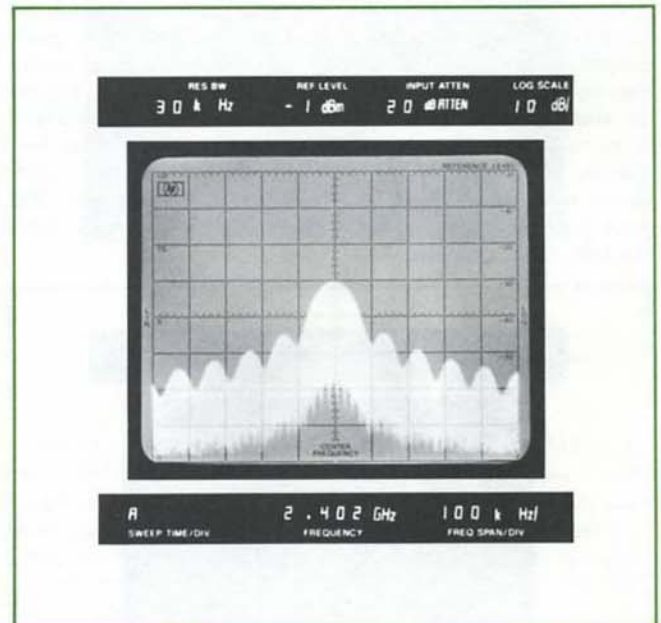
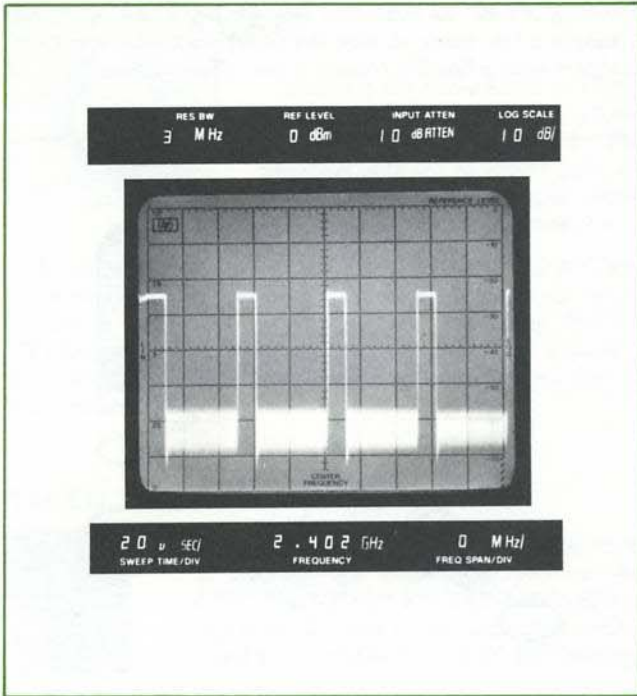

Figure 33. Pulse spectrum
Figure 34. Demodulated pulsed RF signal in ZERO SPAN
For a duty cycle of 0.05,  $\alpha_L = -26 \text{ dB}$ . Hence the peak pulse power in Figure 33 is  $-22 \text{ dBm}$  ( $-48 \text{ dBm} + 26 \text{ dB}$ ).
An alternate method of measuring a pulsed RF signal is in the *pulse* spectrum mode. In a *pulse* spectrum, the individual spectral lines are not resolved. If the RESOLUTION BW of the analyzer is greater than  $1.7 \times \text{PRF}$ , then the pulsed RF signal is being viewed in the *pulse* spectrum. Using the pulse spectrum enables a wider resolution bandwidth to be used. Two benefits result from this: first, the signal-noise ratio is increased because the pulse amplitude increases linearly with the resolution bandwidth (BW) whereas random noise increases only proportionally to the  $\sqrt{\text{BW}}$ . Hence the signal-noise ratio of the analyzer is effectively increased. Secondly, faster sweep times can be used because of the wider resolution bandwidths. The HP 8565A has a 3 MHz RESOLUTION BW which enables it to effectively display pulsed RF signals in the pulse spectrum. The 3 MHz bandwidth, along with fast sweep times, also enables narrow pulse widths to be measured in the time domain. Figure 33 illustrates a signal in the pulse spectrum. The same signal is demodulated with the analyzer in Figure 34.